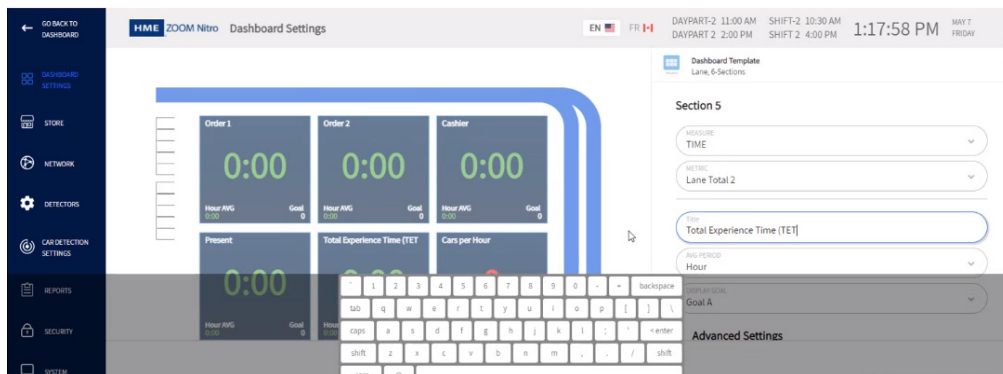

Fig. 7.8
2. In the third field, add a new Title, in this example, it is Total Experience Time (TET). Click the Save button to save your change. See Fig. 7.8.